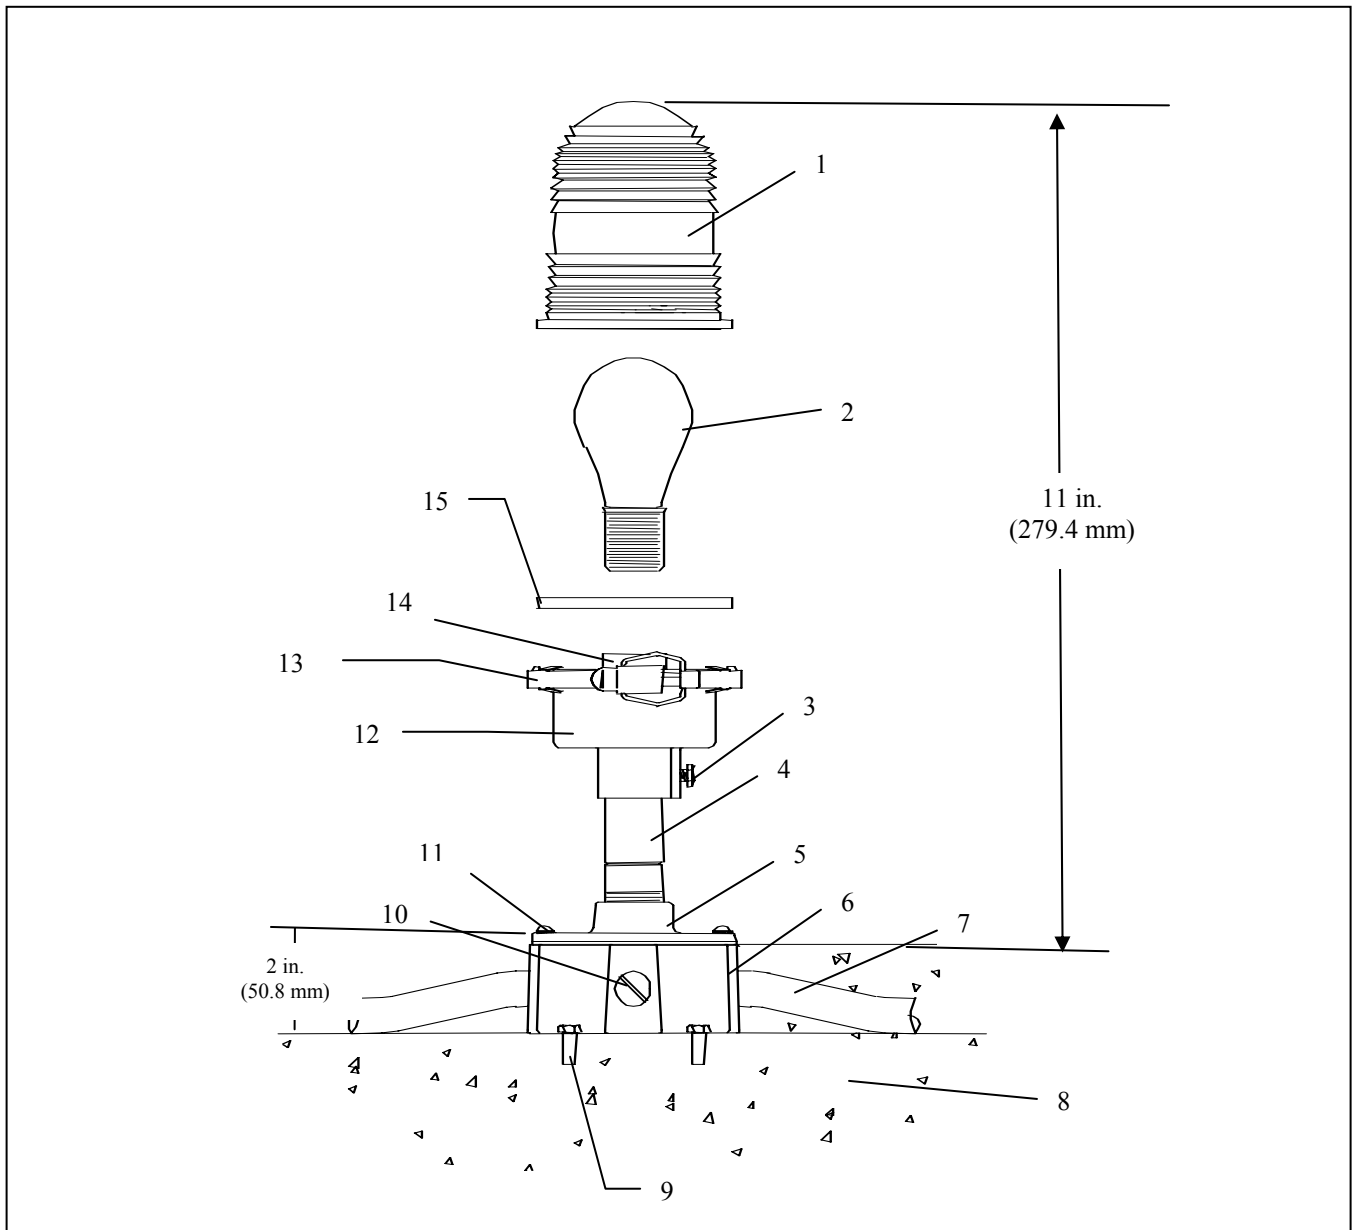

Figure 2. Installing Heliport Perimeter Light Fixture
See Figure 2 in the *Installation* section.
1. See Figure 2. Place wire leads into the column (4), and insert the column into the base of the head assembly (12). Secure the column to the base by tightening the locking screw (3) located on the side of the base.
- See Figure 2. Install the junction box (6) in the heliport pavement using lead anchors (9) supplied by others.